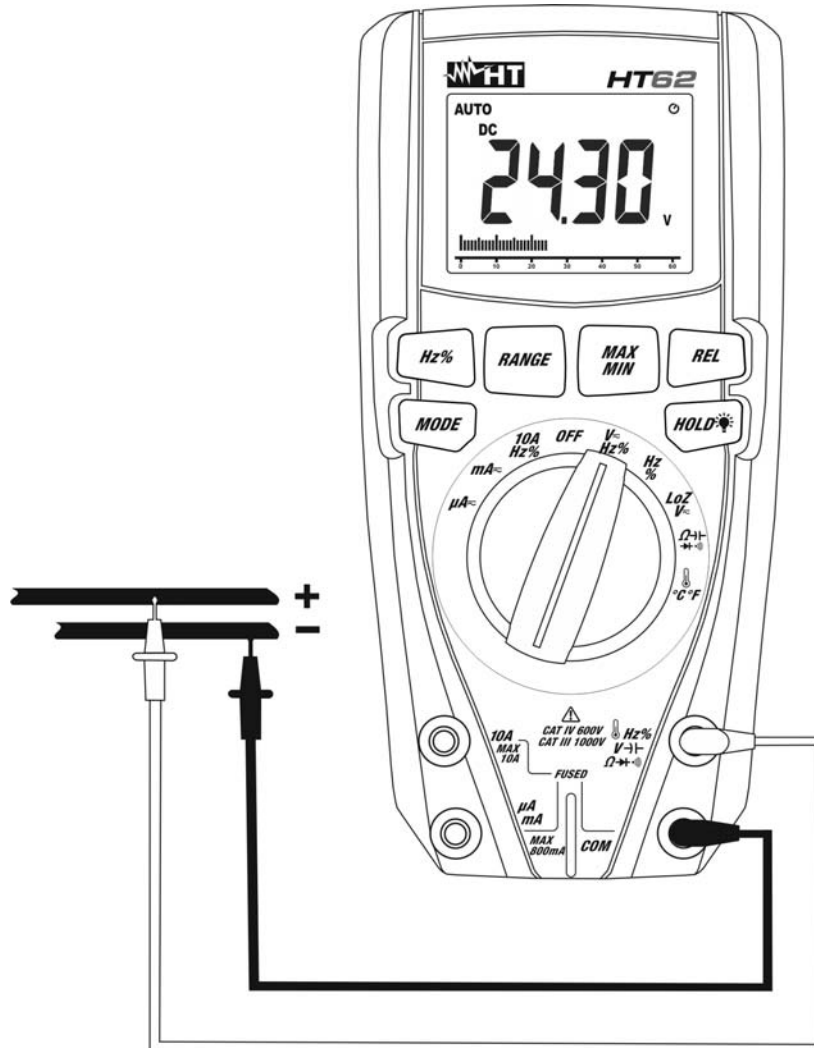
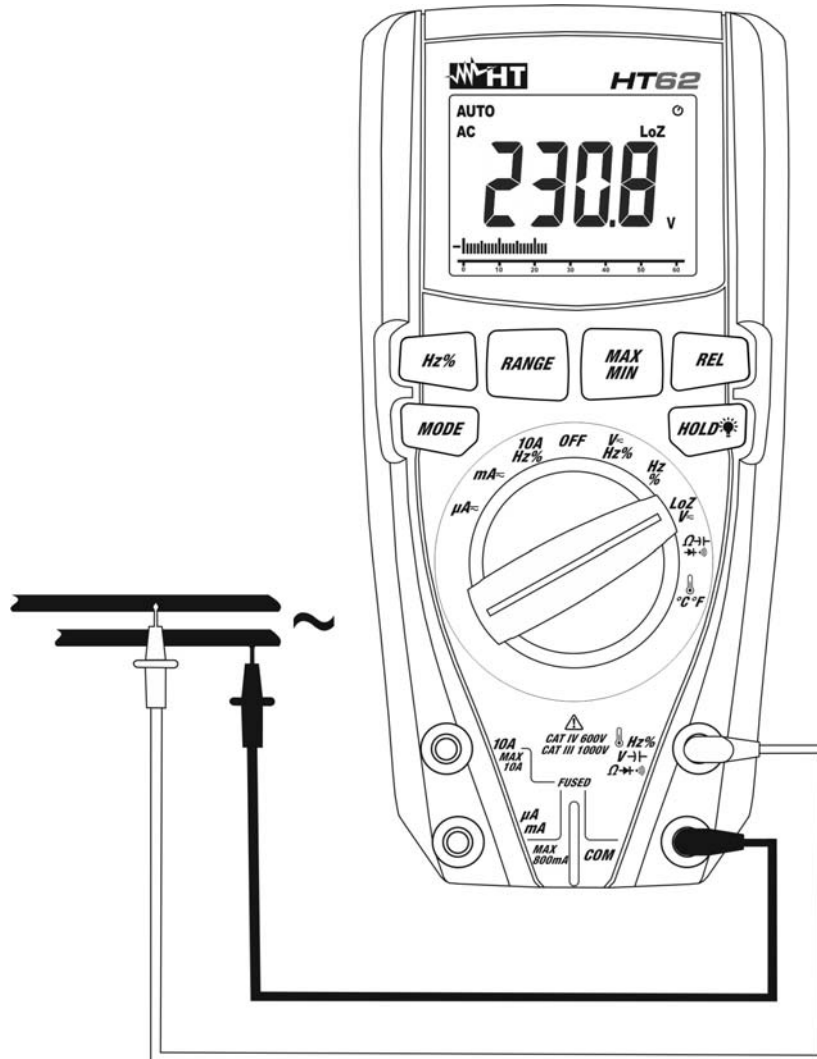

Fig. 2: Use of the instrument for DC voltage measurement
Fig. 4: Use of the instrument for AC/DC voltage measurement with low impedance (LoZ)
4. Position the red lead and the black lead respectively in the spots with positive and negative potential of the circuit to be measured (see Fig. 2). The display shows the value of voltage.
6. When symbol "-" appears on the instrument's display, it means that voltage has the opposite direction with respect to the connection in Fig. 2.
4. Position the red lead and the black lead respectively in the desired spots of the circuit to be measured (see Fig. 4) for AC voltage measurement or in the spots with positive and negative potential of the circuit to be measured (see Fig. 2) for DC voltage measurement. The display shows the value of voltage.